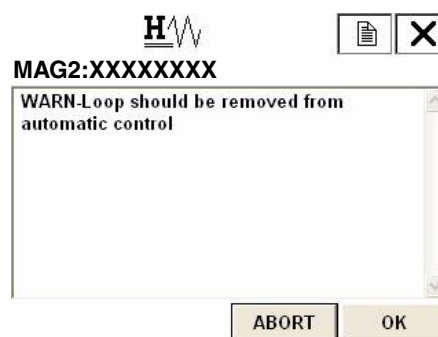

Figure 137.
Figure 137 is then displayed. If the control system is not affected by the forcible change of the current signal, press F4 (OK). By pressing F3 (ABORT), the procedure is canceled.